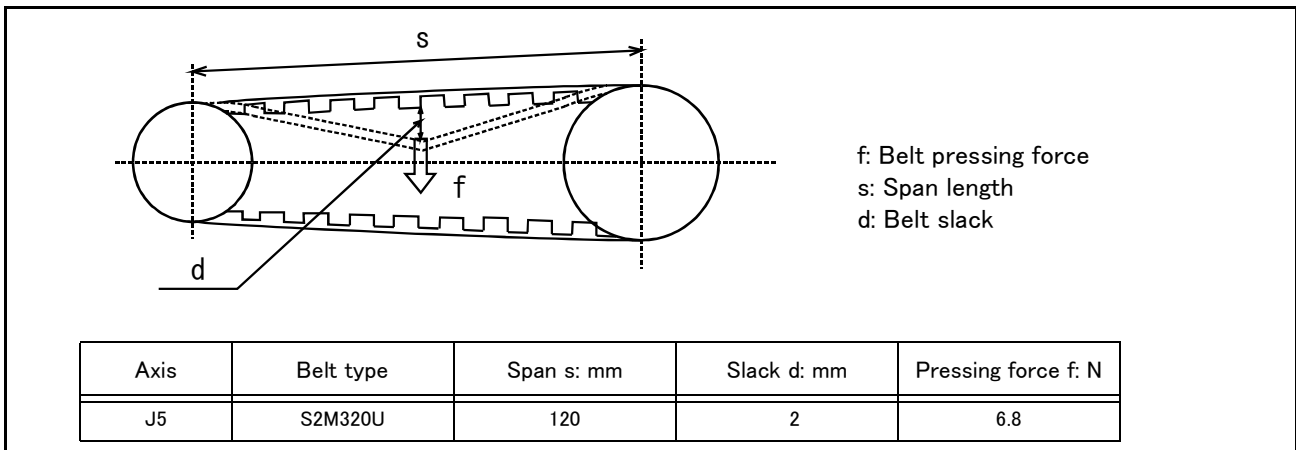

Fig.5-7 : Belt tension
- 4) Check the belt tension degree by pressing the center of the belt lightly (approx. 6.8N) as shown in "Fig.5-7: Belt tension". The belt should slacken by approx. 2 mm.
The timing belt can satisfactorily convey the drive and keep a durable force only when it has an adequate tension. The belt tension should not be too tight or too loose. Instead, it should be adjusted to a degree that elasticity is felt when the belt is pressed with the thumb. If the belt tension is too weak, the belt loosening side will vibrate. On the other hand, if the belt tension is too strong, a sharp sound will be heard and the belt tension side will vibrate. The detailed adjustment (tension) is shown in Fig. 5-7.